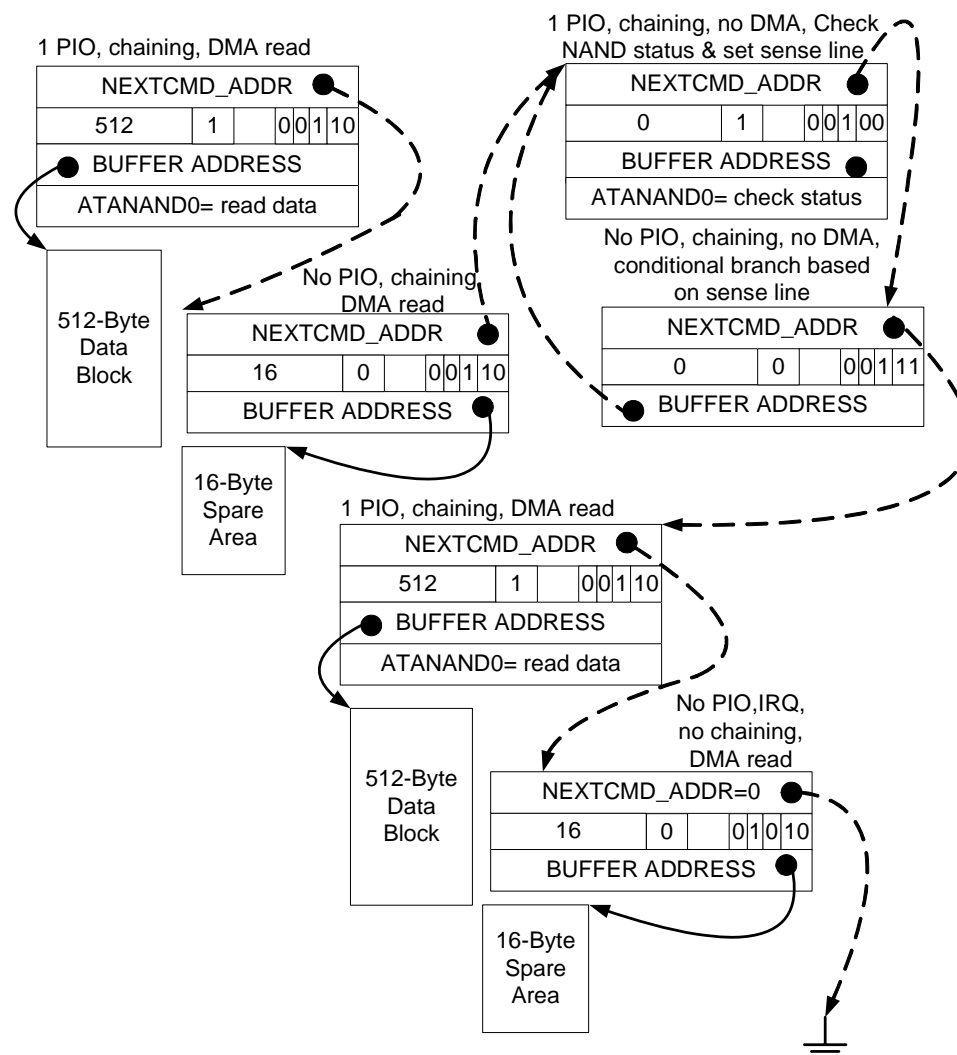

Figure 32. AHB-to-APBH Bridge DMA NAND Read Status Polling with DMA Sense Command
Figure 32 also shows the CHAIN bit in bit 2 of the second word of the command structure. This bit is set to 1 if the NEXT_COMMAND_ADDRESS contains a pointer to another DMA command structure. If a null pointer (0) is loaded into the NEXT_COMMAND_ADDRESS, it will not be detected by the DMA hardware. Only the CHAIN bit indicates whether a valid list exists beyond the current structure.
Figure 32 shows a more complicated scenario. This subset of a NAND device workload shows that the first two command structures are used during the data-write phase of an ATANAND device write operation (CLE and ALE transfers omitted for clarity).
The example in Figure 32 shows the workload continuing immediately to the next NAND page transfer. However, one could perform a second sense operation to see if an error occurred after the write. One could then point the sense command alternate branch at a NO_DMA_XFER command with the interrupt bit set. If the CHAIN bit is not set on this failure branch, then the CPU is interrupted immediately, and the channel process is also immediately terminated in the presence of a workload-detected NAND error bit.